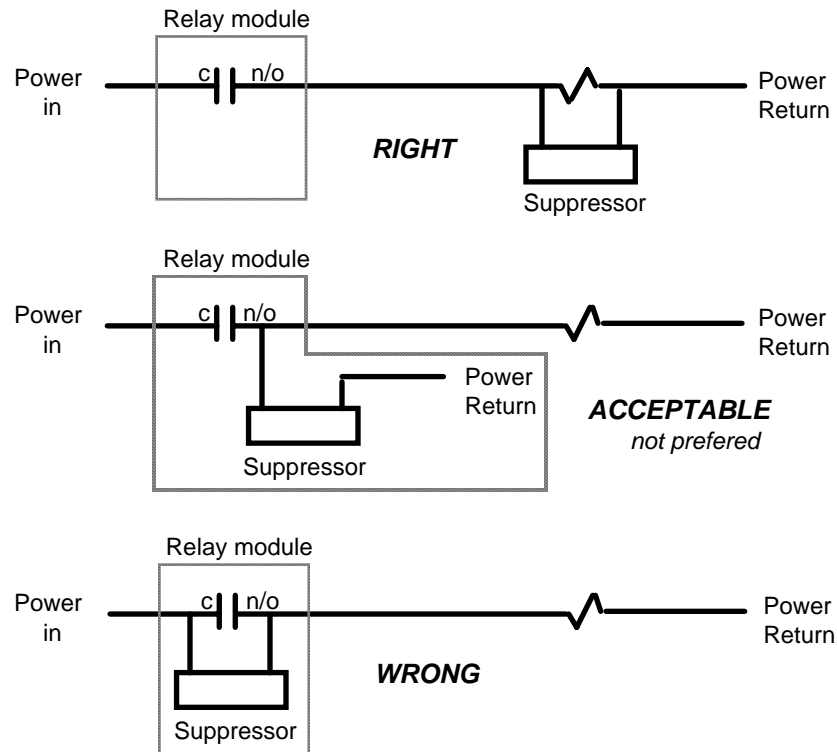

Figure 2-13. How to connect suppressors across the load
9. To connect the relays to your equipment, use connector TB302. See Figure 2-13.
11. Install the suppressors across the load or as close to the load as possible. Attach suppressors by connecting leads across existing terminals or junction points. See Figure 2-13 for the correct way to install them.